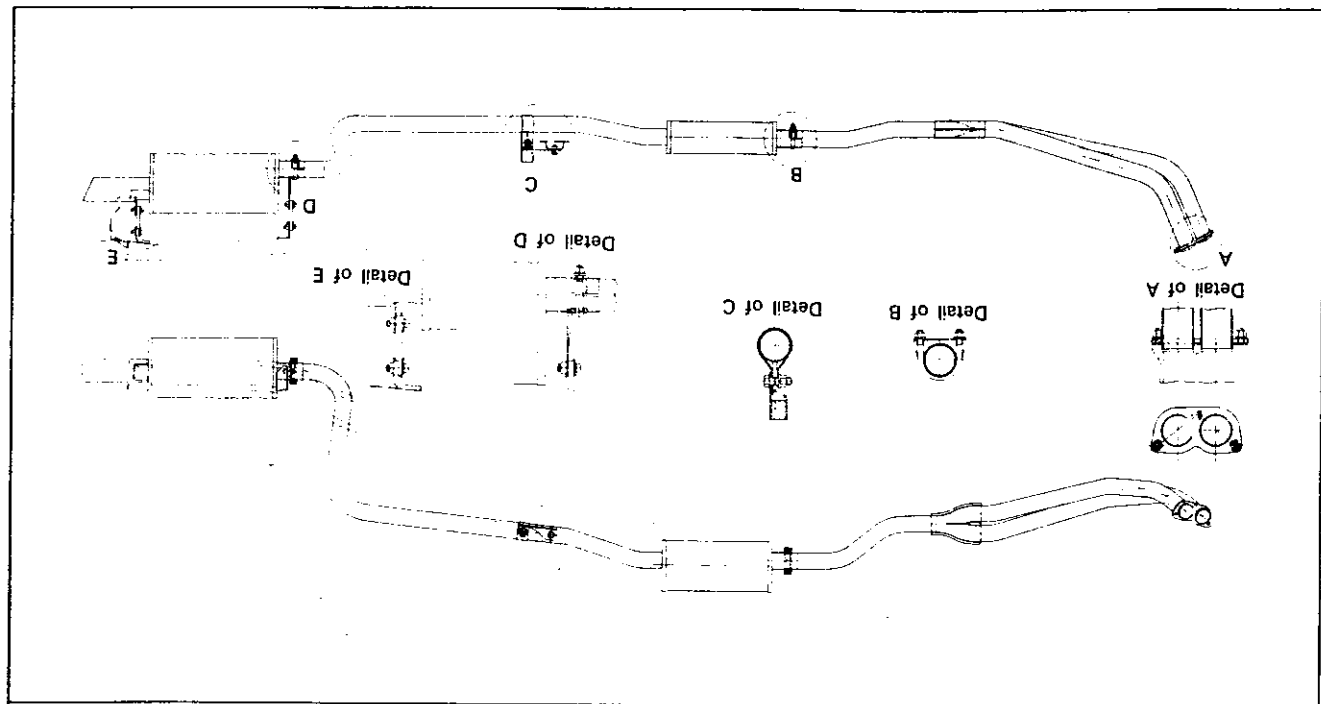

Fig. FE-3 Exhaust system
The exhaust system consists of three units providing front tube, pre-muffler and center tube, and main muffler and tail pipe. As seen in the Figure FE-3, the exhaust system is mounted at the points "C", "D" and "E" and clamped at the points "B" and "D" with U-bolts.
2. Remove the exhaust hanger strap (the point "E" shown in the Figure FE-3).
3. Remove the exhaust hanger strap (the point "D" shown in the Figure FE-3).
4. Remove the bolt (the point "C" shown in the Figure FE-3.) and dismount the exhaust system.
5. Remove the U-bolts (the points "B" and "D" shown in the Figure FE-3), and separate the exhaust system into three sections.